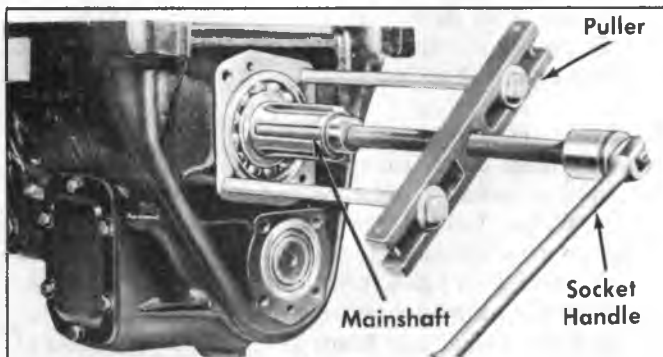

Fig. 2F--Pressing Mainshaft Out of Case
7. Remove speedometer drive gear. Then using puller (J-4558) as shown in figure 2F, press mainshaft with front pilot bearing, mainshaft over drive gear snap ring, overdrive and direct clutch gear, collar, and overdrive gear out through front of case, leaving 1st speed gear, 1st and 2nd speed clutch gear and collar and mainshaft 2nd speed gear and sleeves in case. Remove these items from case after removing mainshaft.